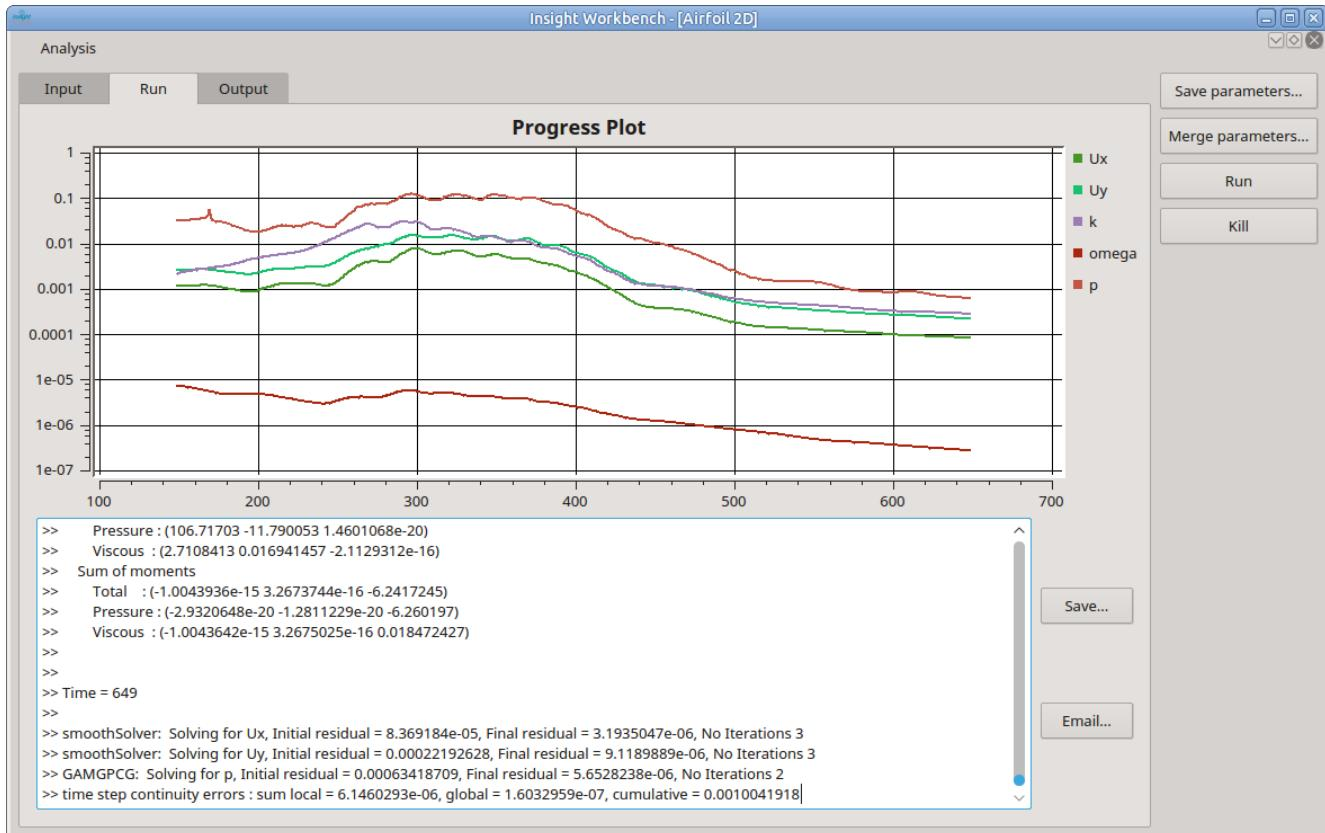

Figure 8: Solution progress tab of the workbench
**Running the Analysis** With a properly edited parameter set, the analysis run can be started. This is achieved by clicking on the button "Run" on the right side or by selecting **Actions** **Run Analysis** in the menu. This analysis form switches automatically to the "Run" tab (see figure 8). In the lower half, the log message are displayed. Sometimes, errors in an external program occur and are not correctly reported. It is therefore a good practice to watch the log messages for errors or warnings.